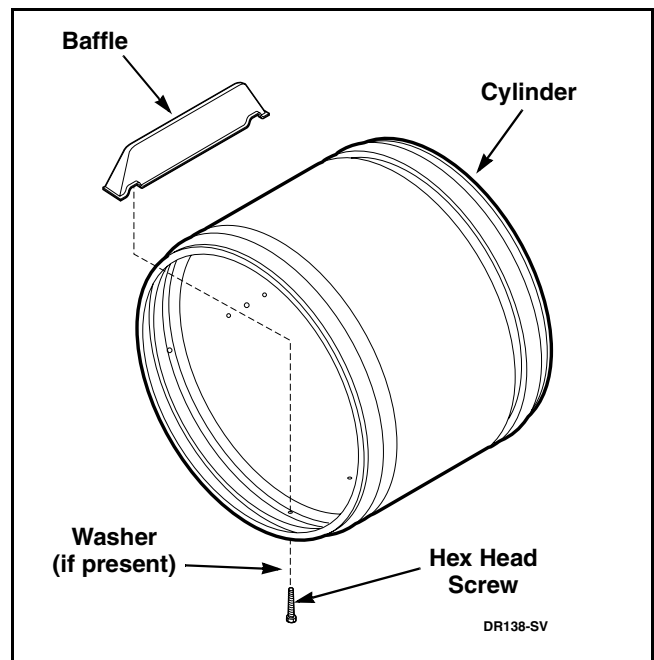

Figure 27
- a. Remove screws and washers (if present) holding baffles to cylinder. Refer to *Figure 27*.